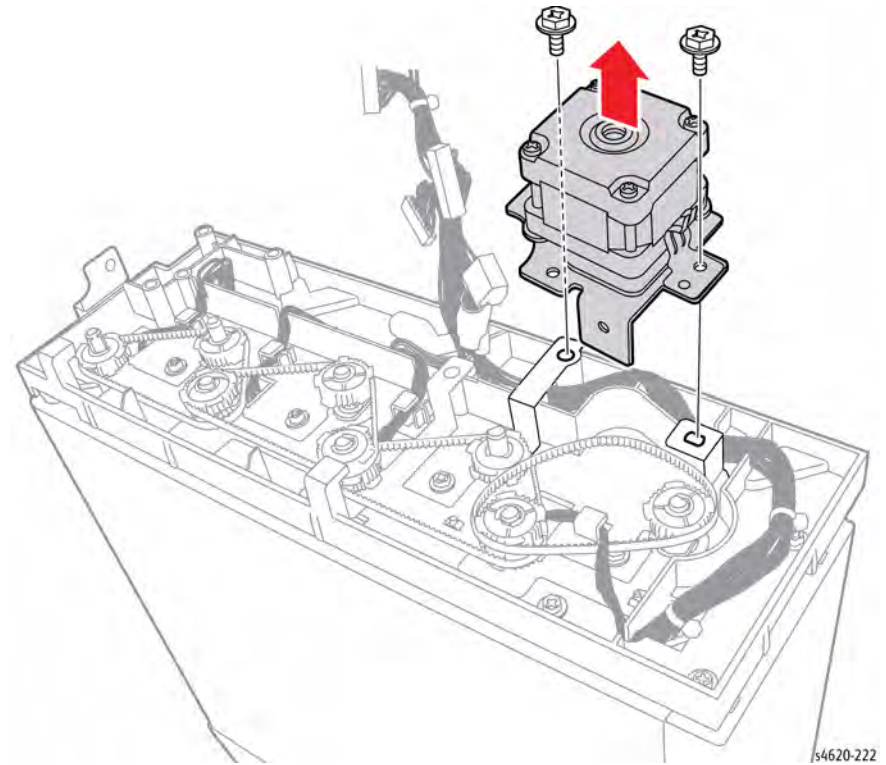

Figure 1 Remove the Transport Motor
4. Remove 2 screws (metal) and disconnect P/J127 remove the motor, Figure 1.